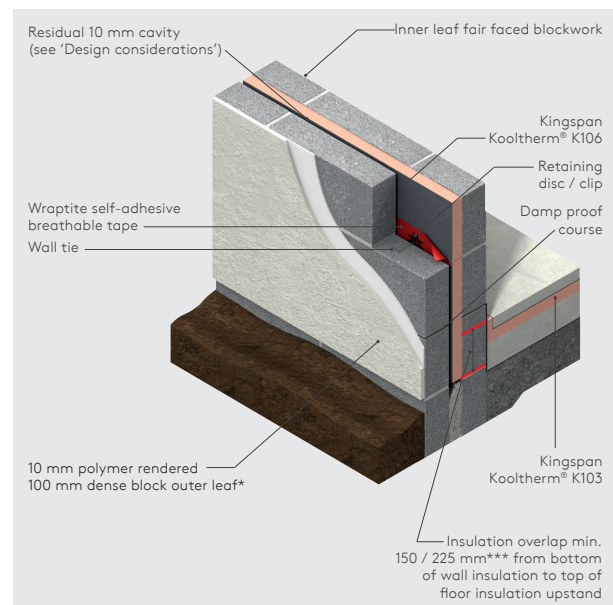
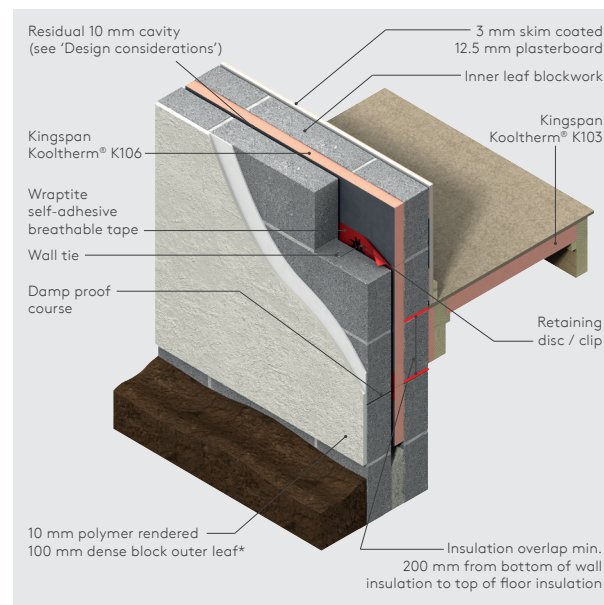

Figure 1
Figure 2
- In order to minimise cold bridging at the edge of ground floors, the distance between the top surface of the floor insulation or perimeter insulation upstand, and the bottom of the wall insulation must be a minimum of 150 / 225* mm for a concrete floor (see Figures 1 & 4) and 200 mm for a suspended timber floor (see Figures 2 & 5). The further appropriate wall insulation extends past the floor insulation, the better the thermal performance of the junction between the wall and the floor.